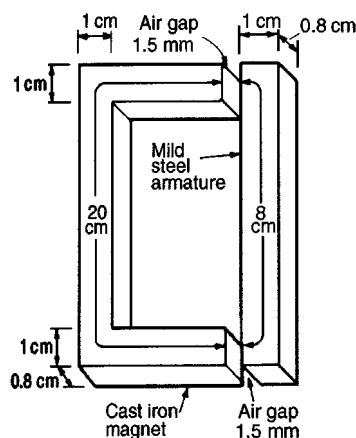

Figure 7.8
- 6 Figure 7.8 shows the magnetic circuit of a relay. When each of the air gaps are 1.5 mm wide find the mmf required to produce a flux density of 0.75 T in the air gaps. Use the B-H curves shown on page 71. [2970 A]